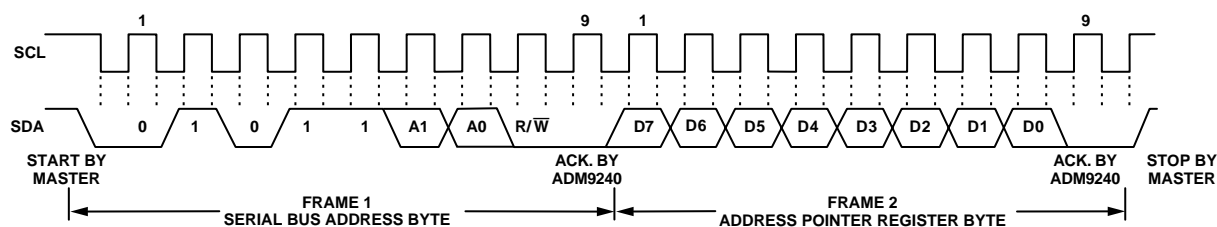

Figure 2b. Writing to the Address Pointer Register only
1. If the ADM9240's Address Pointer Register value is unknown or not the desired value, it is first necessary to set it to the correct value before data can be read from the desired data register. This is done by performing a write to the ADM9240 as before, but only the data byte containing the register address is sent, as data is not to be written to the register. This is shown in Figure 2b.
2. If the Address Pointer Register is known to be already at the desired address, data can be read from the corresponding data register without first writing to the Address Pointer Register, so Figure 2b can be omitted.